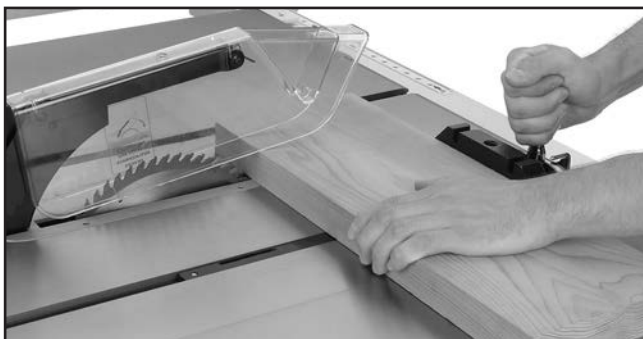

Figure 52. Typical crosscutting operation.
7. Hold workpiece firmly against face of miter gauge (as shown in **Figure 52**), and ease it through blade until workpiece is completely past saw blade.